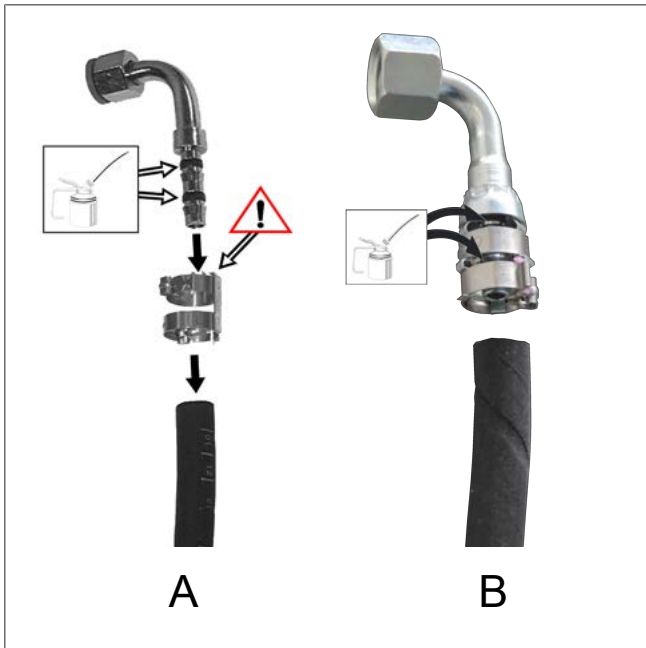

Fig. 11 Lubricate fittings
- Fitting with separate clamp, see Fig. 11 A
- Fitting with fixed clamp, these are standard supplied by Webasto, see Fig. 11 B